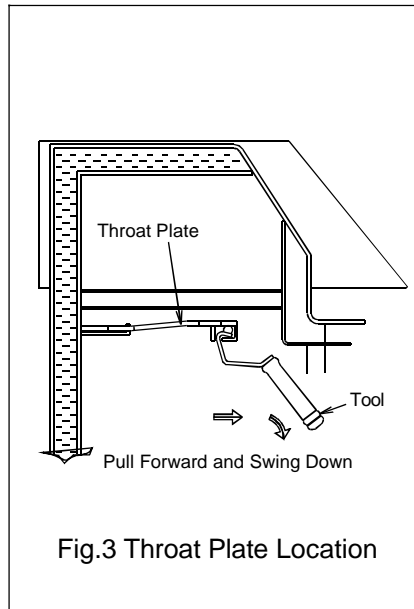

Fig.3 Throat Plate Location
The throat plate is lowered using the door opening tool. Slide the tool into the bracket from the side, pull the throat plate forward, and then lower it as shown in Fig. 3. Any sooty deposits should then be swept from the plate and into the fire.
After clearing any soot from within the stove, replace the throat plate (see Fig. 3), the front firebars, and side fireplates.
- b) the throat plate is fitted correctly (see Fig. 3.) and that it is not distorted.